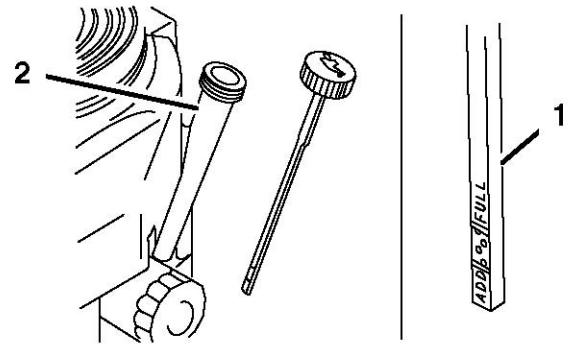

Figure 16
4. Clean around the oil dipstick (**Figure 16**) so that dirt cannot fall into the filler hole and damage the engine.
5. Unscrew the oil dipstick and wipe the end clean **Figure 16**.